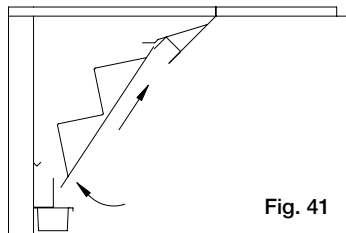

Fig. 41
1. Slide the top edge of the Second Stage filter into the top rear filter channel; Fig. 41.